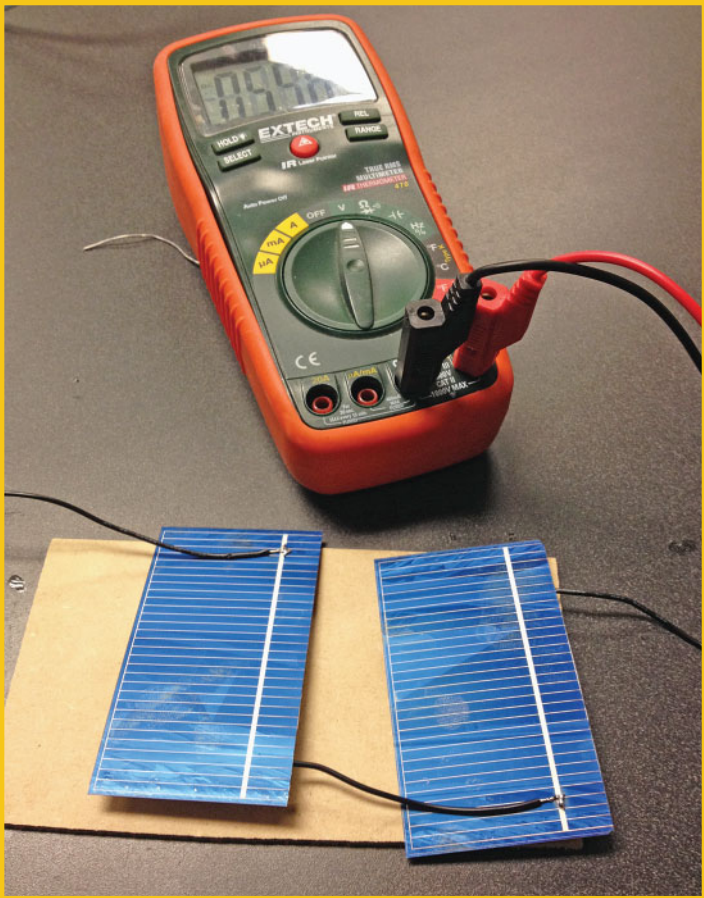

FIGURE 4.22 Connect your solar cells in series.
STEP 1 Decide how many volts and amps you want. Measure each panel's output and determine whether to go with serial or parallel. If in doubt, I suggest serial because it's easier to wire together! In Figure 4.22, I show two solar panels soldered in series, connected to a multimeter. Note that I used solid hookup wire when prototyping this project. Big mistake—the solid wire is too stiff. Stranded wire is more flexible, which is easier on fragile solder joints, and it lays flat better.